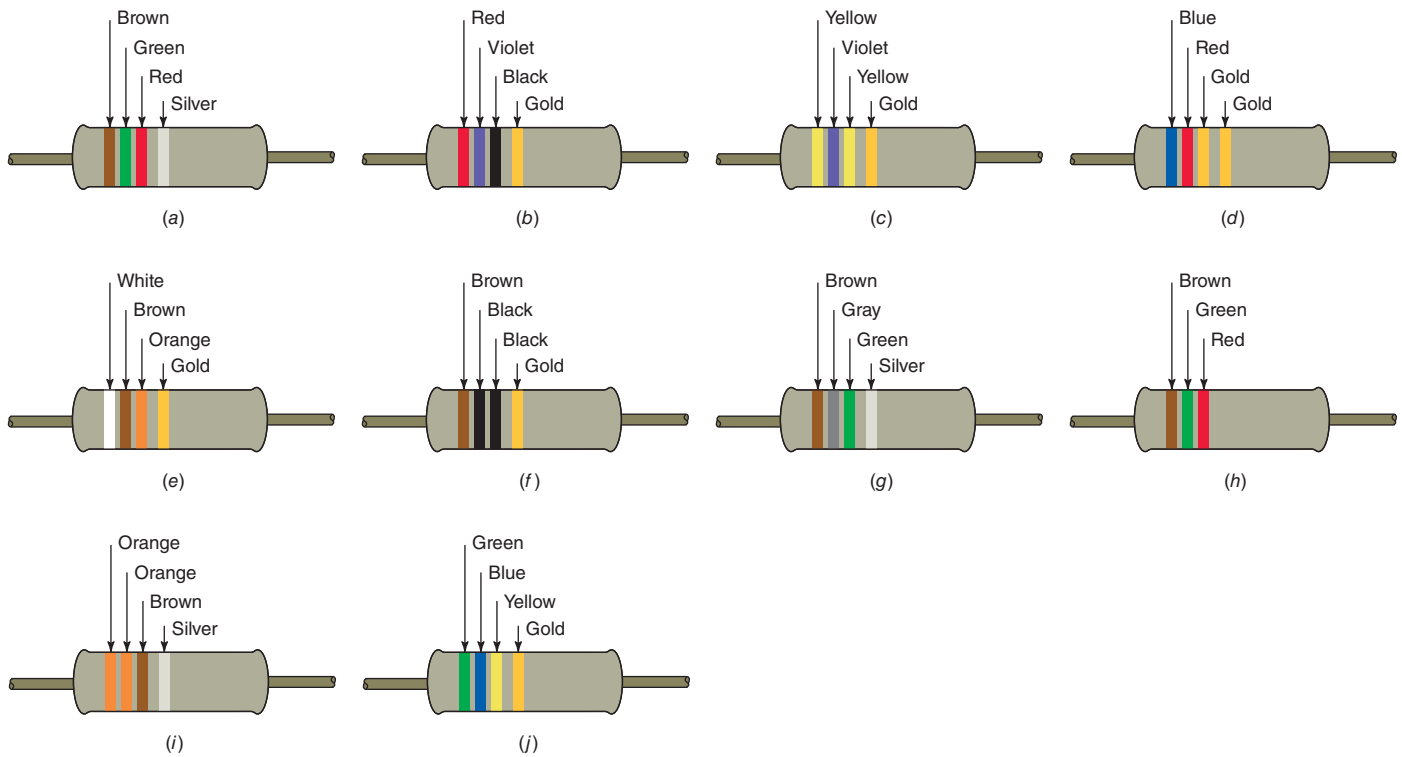

Figure 3-20 Resistors for Prob. 3.1.
- 3.1 Indicate the resistance and tolerance for each resistor shown in Fig. 3-20.